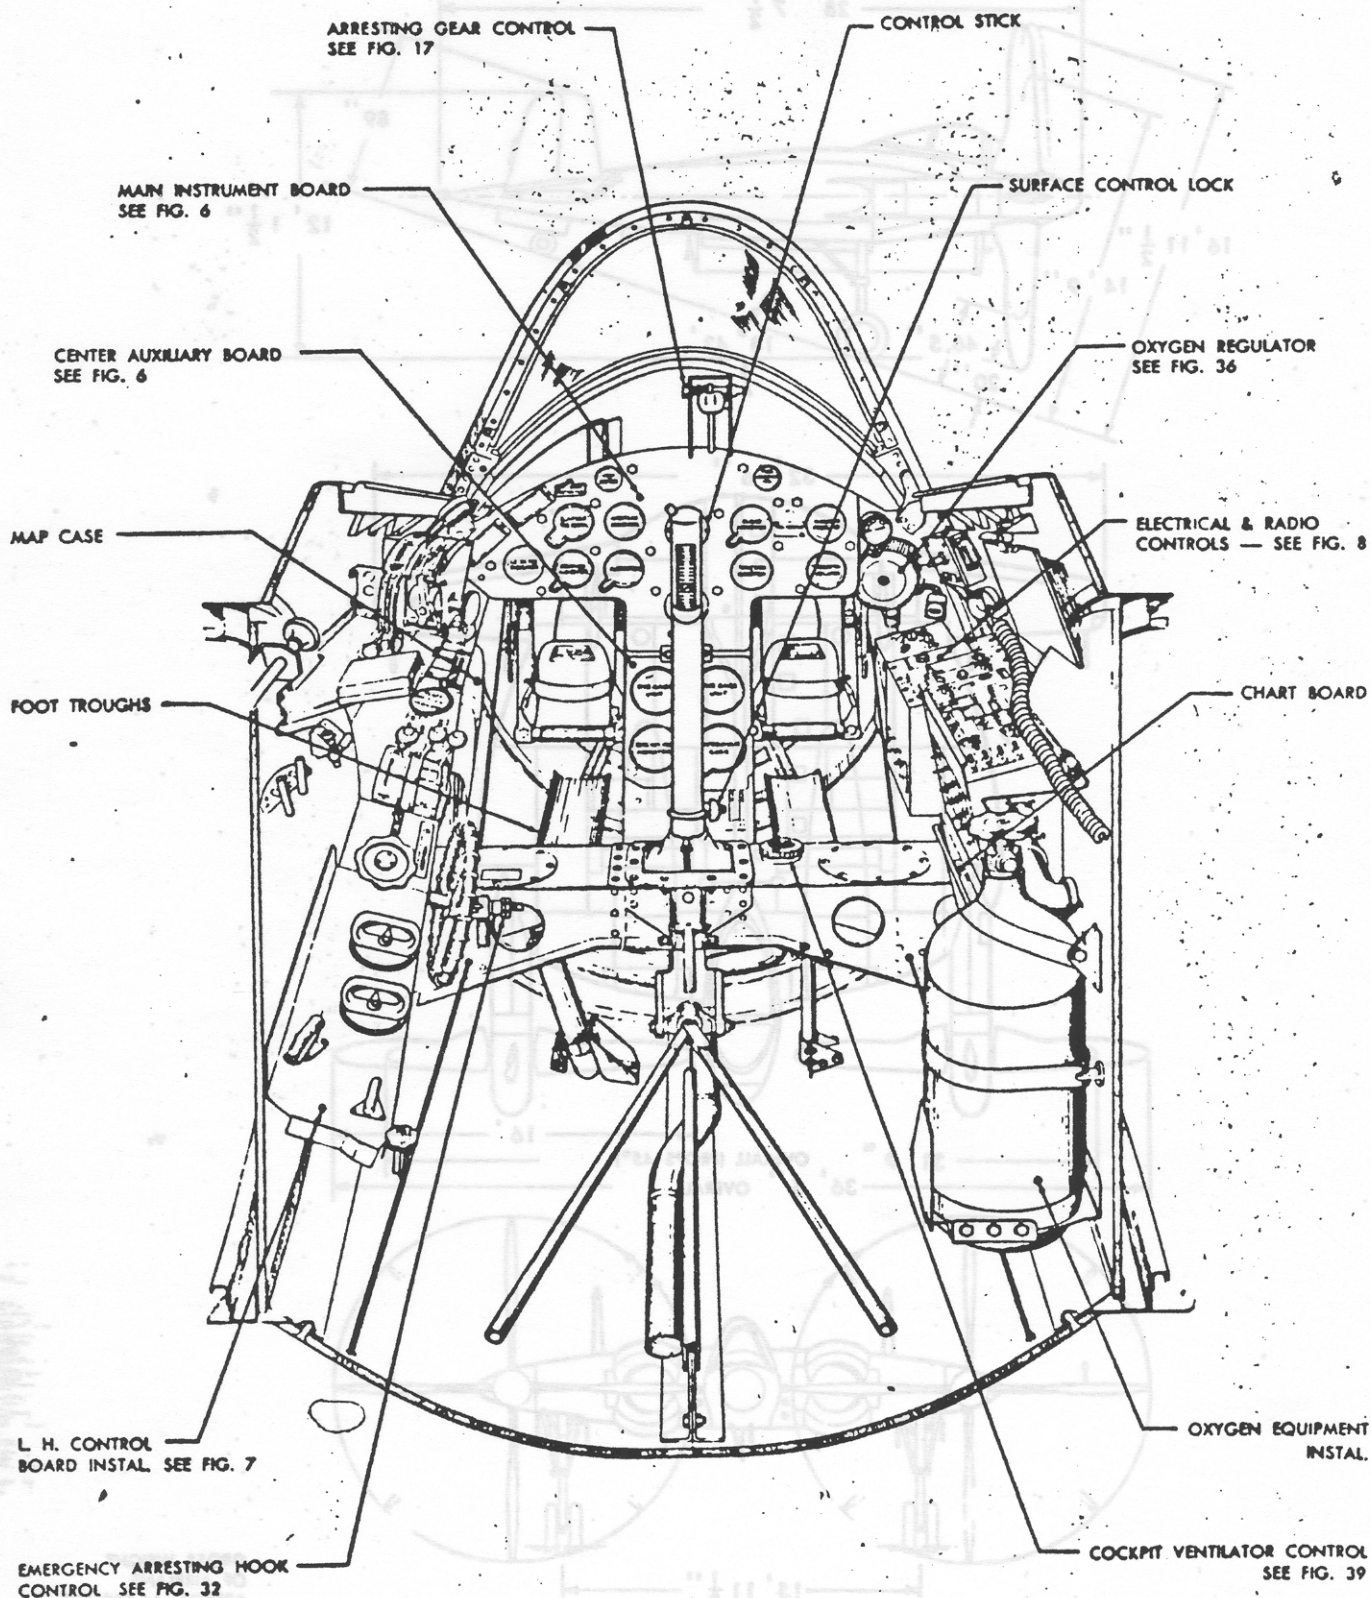
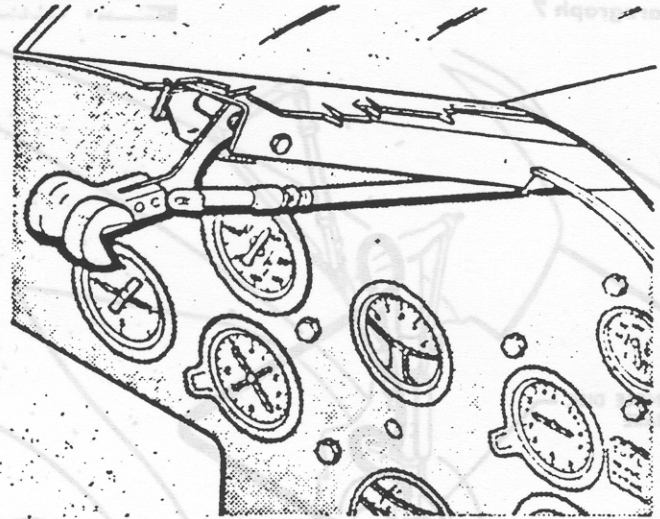

Figure 5 — Cockpit — Forward
Figure 17 — Arresting Hook Control
e. SURFACE CONTROL LOCKS. - Locking provision for the rudder and ailerator control systems is located at the base of the stick. (See figure 5.)
d. **ARRESTING HOOK CONTROL.** - The arresting hook control is located on the right side of the main instrument panel just below the windshield cowl. The control has two positions, "UP" and "DOWN," and must be moved to the limit of these positions to obtain the desired effect of the arresting gear. (See figures 17, 18.) The arresting gear is mounted unconventionally on the upper aft surface of the wing structure. The hook is held in the retracted position by pressure in the hydraulically retracted strut acting on the aft side of the piston. As pressure is applied to the forward side of the piston, the strut linkage is opened and straightened, the hook shaft rising above the airplane with the hook aft and below the trailing edge. The arresting hook emergency extension handle is located on the bulkhead on the left hand side of the pilot's cockpit. The system is activated by turning the handle. (See figure 5.)